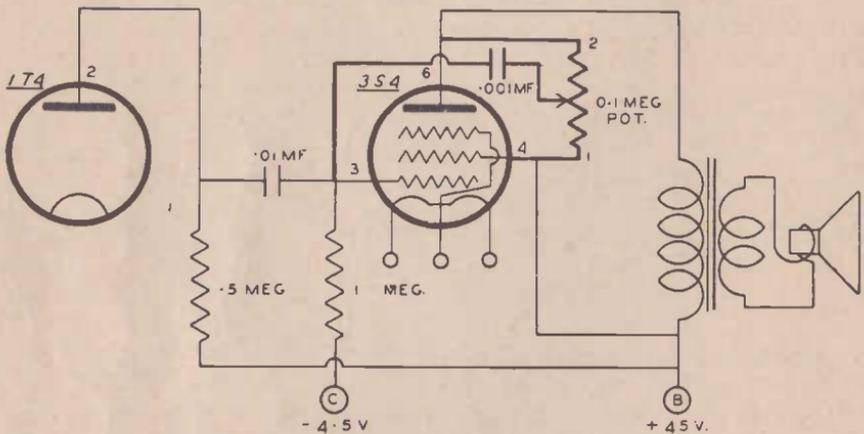

FIG. 7
(C) Figure 7 shows still another tone control circuit, which is being applied in quite a large number of modern receivers. The principle of operation of this circuit is a little different from that of the previous circuits. In this case, instead of the treble frequency simply being by-passed to chassis by the tone control condenser, some
of the treble signals are applied through the .001 mfd. condenser shown in Figure 7 to the control grid of the 3S4. In some radio receivers the signals are returned to the plate of the 1T4 instead.